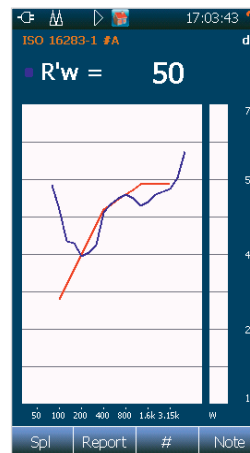

Figure 18.47
- Use the **FUNC** key to display other calculated functions (e.g. R'w) - Figure 18.47.